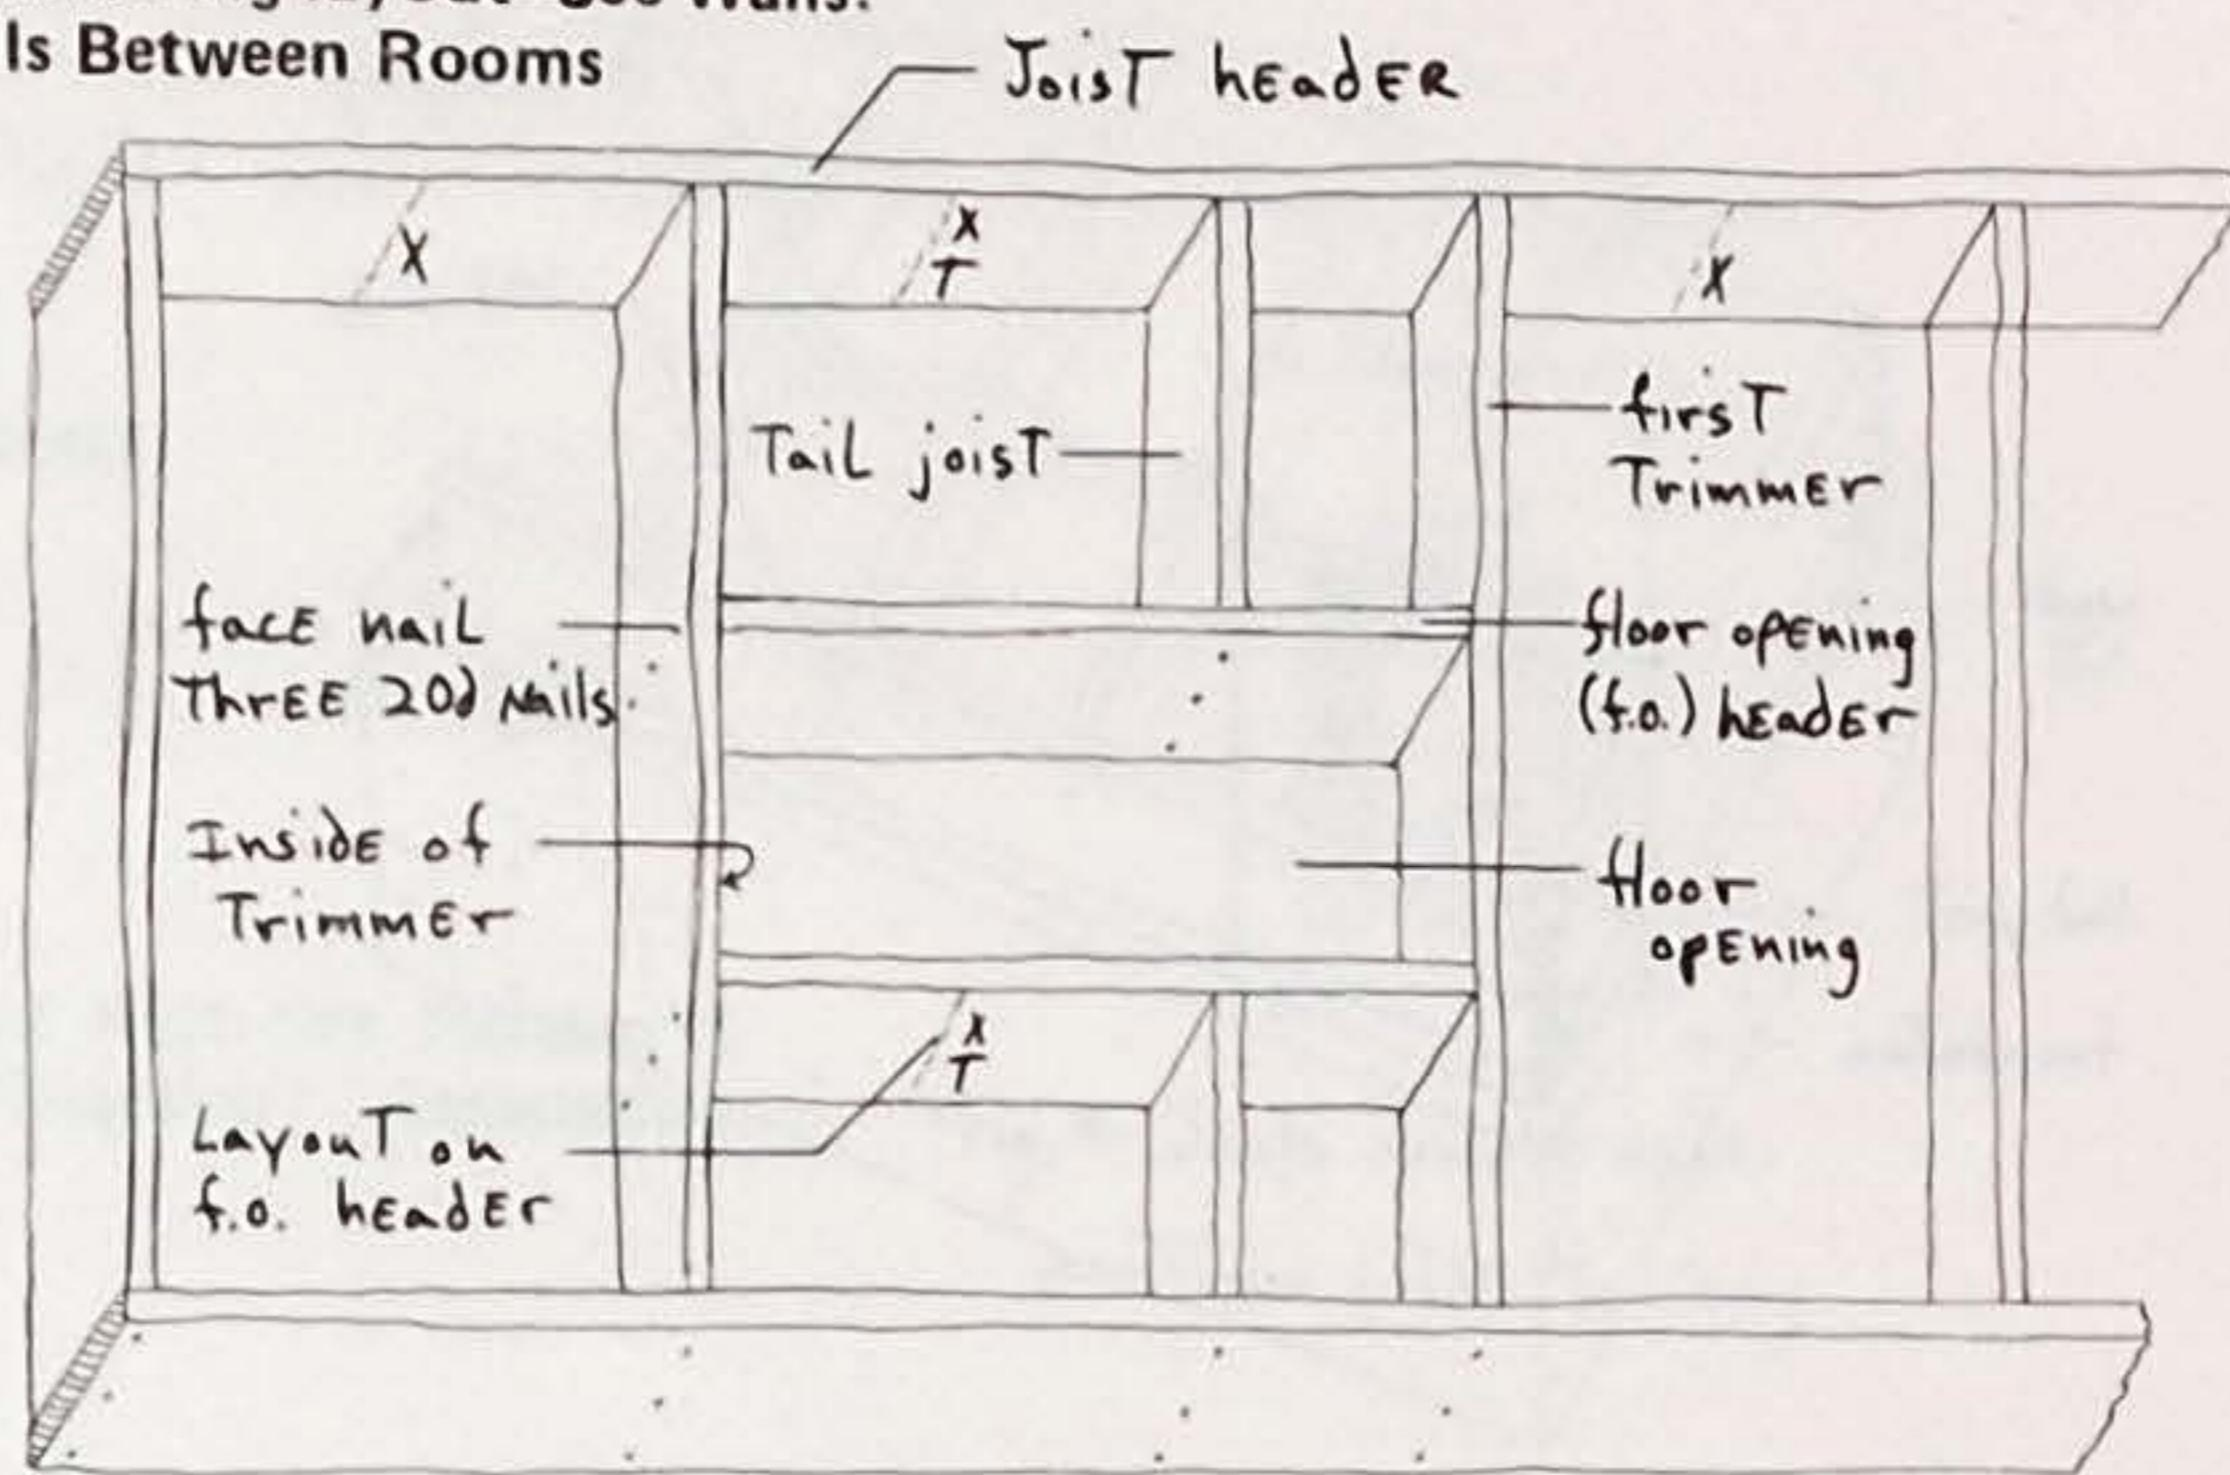

Fig. 8- Laying Out and Installing The floor Opening Headers
2. From the layout on the joist header, figure out the length of the headers for the opening and cut the right amount of tail joists and headers. The length of the header will be the inside dimension between the two first trimmers. The inside dimension is the distance from the inside of one trimmer to the inside of the other. A tail joist is a joist that doesn't span the same distance as the regular joists. Its span is usually interrupted by the header of a floor opening. Lay out the position of the tail joists on the headers before you install them. The layout should be transferred from the joist header. Nail at least one tail joist to the header (with three 20d nails). This tail joist will act as a spacer block to keep the header in the proper place as you nail it to the trimmers. Fig. 8.